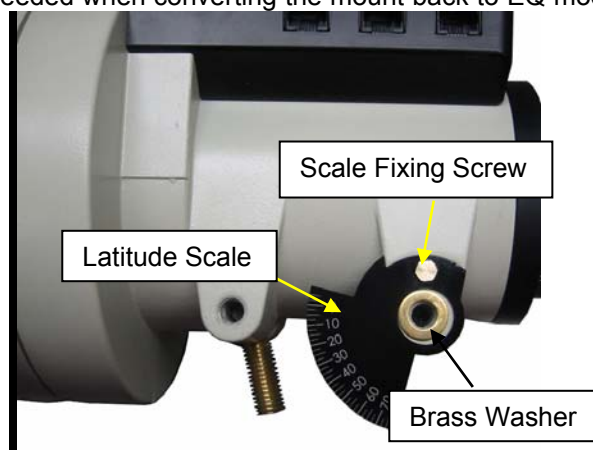

Figure 18
20. Remove the Latitude Scale, which is secured onto the mount with a Fixing Screw, as shown in **Figure 18**. Do not break the plastic scale. These parts are needed when converting the mount back to EQ mode.